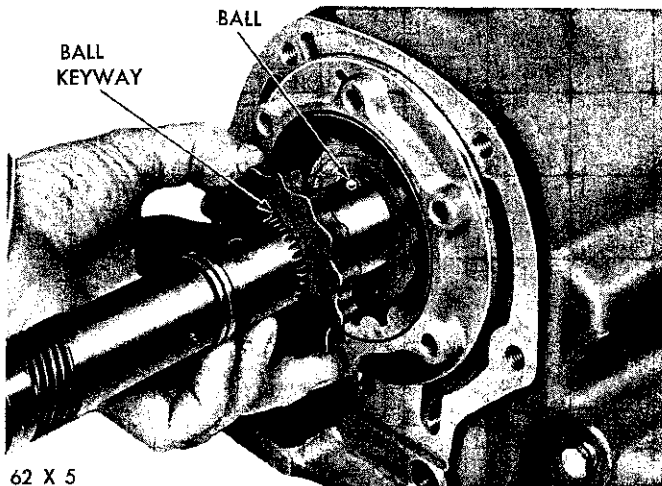

Fig. 41—Removing or Installing Rear Oil Pump Inner Rotor
(1) Remove the extension housing. See Paragraph 19.
(2) Remove the governor and support. See Paragraph 20.
(3) Unscrew the rear oil pump cover retaining bolts and remove the cover.
(4) The oil pump inner rotor is keyed to the output shaft by a small ball, therefore, use care in sliding out the inner rotor so as not to lose the ball (Fig. 41). Remove the outer rotor from the pump body.
rotor on the output shaft in alignment with the ball and outer rotor (Fig. 41).